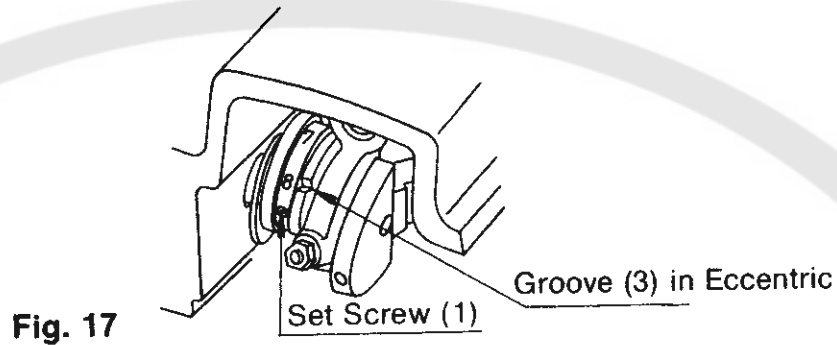

Fig. 17
8. Regulating Stitch Length (Fig. 17)